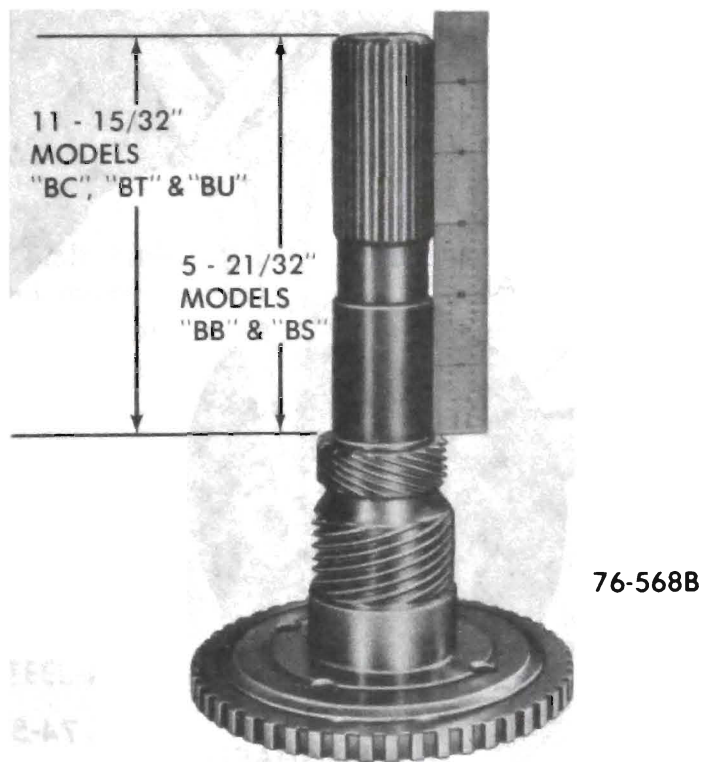

Figure 76-110
b. Install new steel speedometer drive gear. Press to 5-21/32" for "BS" and "BB" models, and 11- 15/32" for "BC", "BU" and "BT" models. See Figure 76-110.